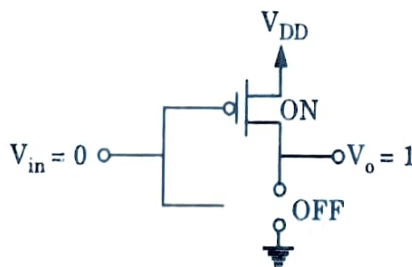

Fig. 1.13.3.
2. When input is low (≈ 0 V) Q_N is OFF and Q_P becomes ON, therefore the output becomes logic high ($V_o = V_{DD}$) as shown in Fig. 1.13.3.